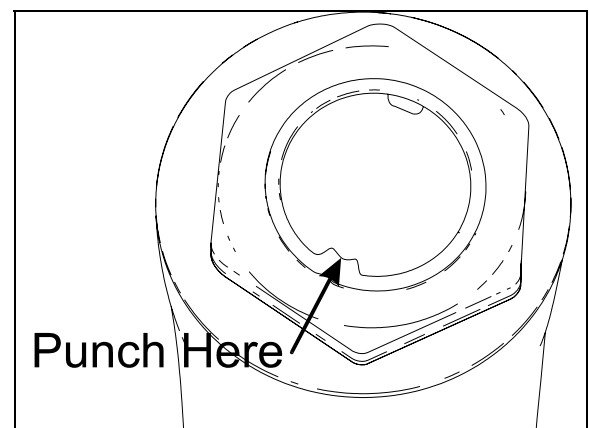

FIGURE 22: FIXING NUT PUNCH MARK
**Caution:** Lock nut with sector shaft using a punch mark into the groove (Refer to figure 22).